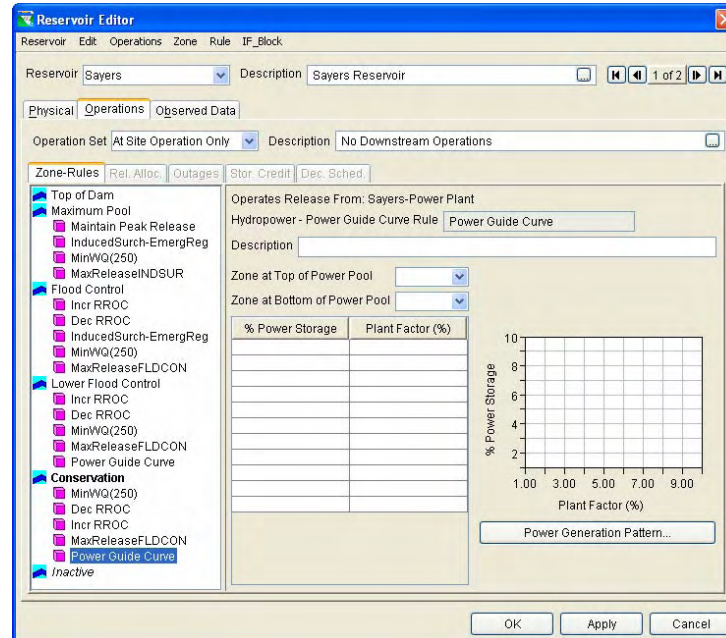

Figure 11.36 Hydropower – Power Guide Curve Rule Editor
2. Highlight the appropriate rule in the operations tree to access the **Hydropower – Power Guide Curve** rule editor (Figure 11.36). The name and description of the rule will appear in the **Hydropower – Power Guide Curve** rule and **Description** fields.